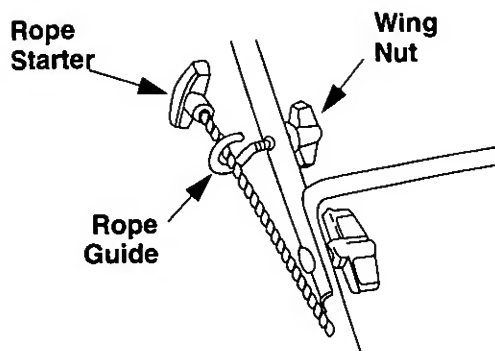

Figure 5.
- The rope guide is attached to the right side of upper handle. Loosen the wing nut which secures the rope guide. See figure 5.
- With the spark plug wire disconnected and grounded, hold the blade control handle against the upper handle, and pull the starter rope out of the engine. Release the blade control handle. Slip the starter rope into the rope guide. Tighten the wing nut. See figure 5.